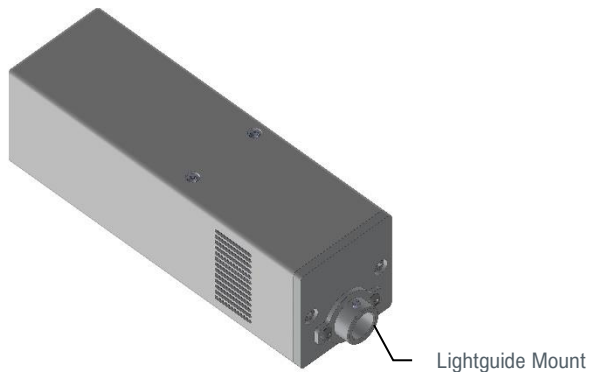

Figure 1
2. Lay the Emitter on its side and position it so you can access the Lightguide Mount (Figure 1).